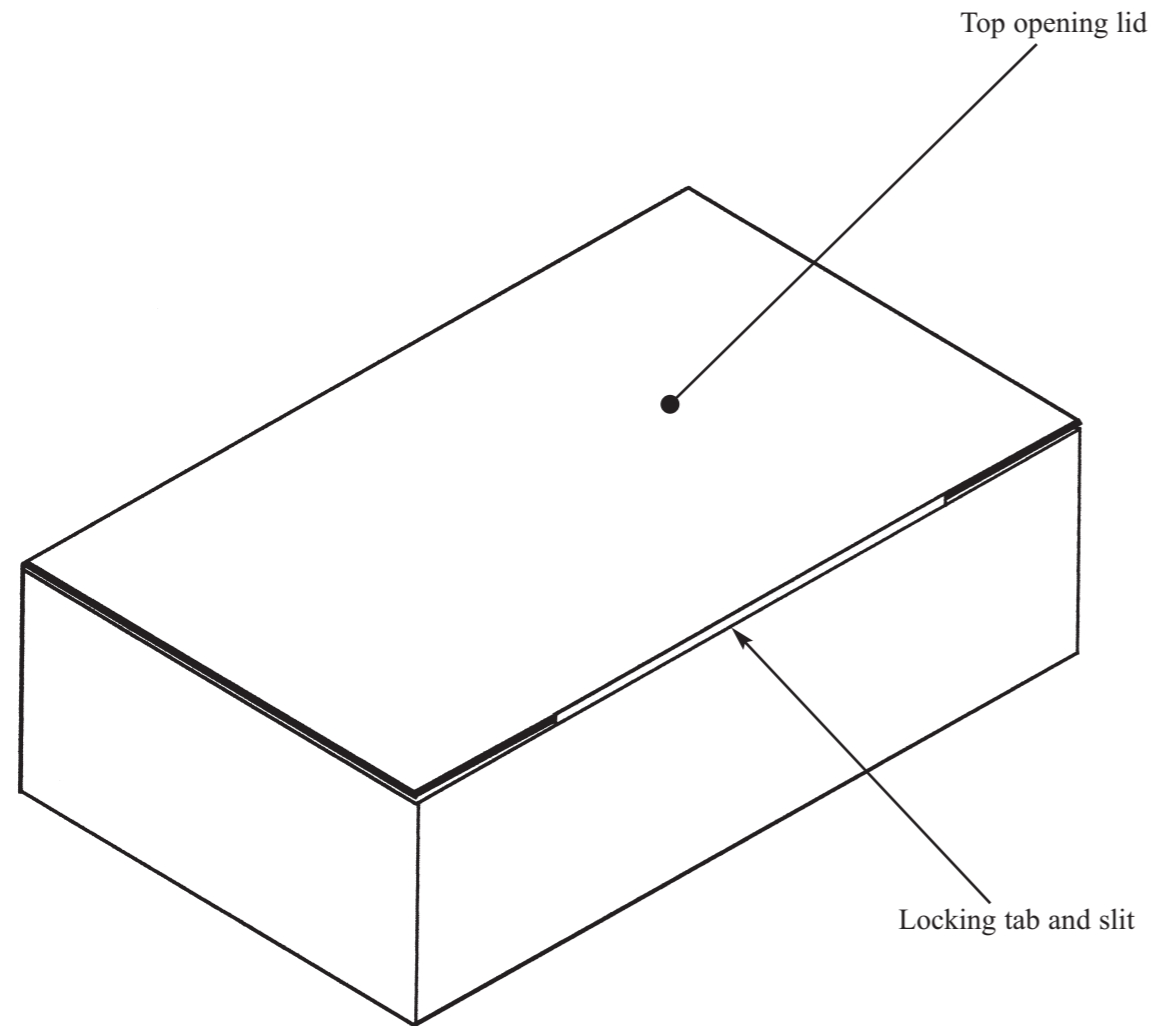

Figure 3
- 2 As a graphics designer you are to design the graphic details for the lid and sides of the presentation box (Figure 3).